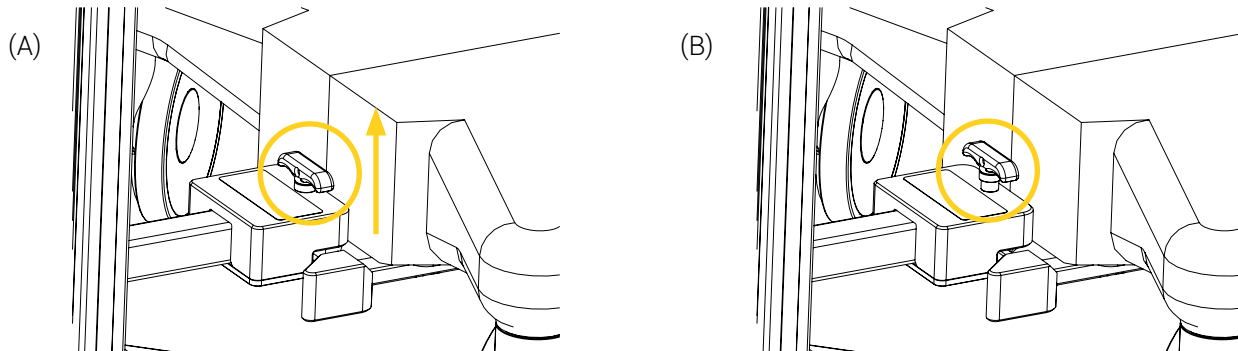

Figure 13 : Quick release mechanism
1. If required, disengage the braking system on all four (4) dual wheel swivel casters of the THS Neonatal Cart.
2. Pull and maintain the knob of the fold-up hitch quick release mechanism to release the THS coupling device (Figure 13).